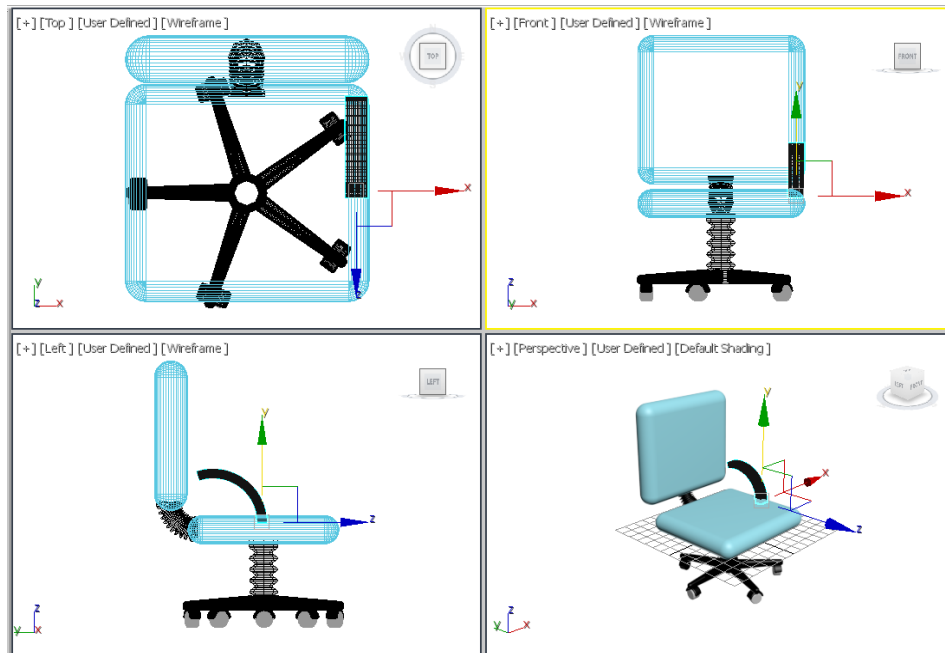

Figure 3-47 Alignment of right hand support01 in viewports
8. Align *right hand support01* in all viewports, as shown in Figure 3-47.